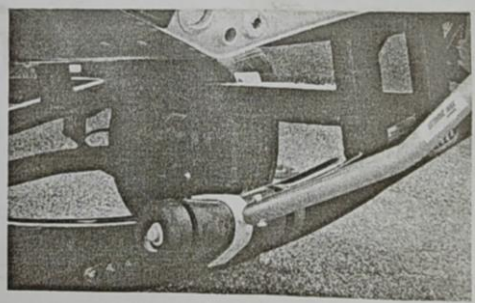

Figure2
2. As shown in Figure 2, install Adjustable rod 3 (Number 7) on the drum bracket of the trailer.